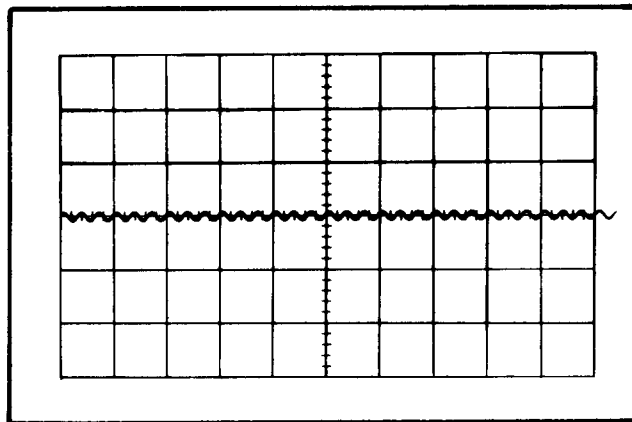

Fig. 6-41. Typical CRT display when checking low-frequency reject operation at 30 kilohertz.
c. CHECK—Stable CRT display (see Fig. 6-41) can be obtained with the A LEVEL control.
i. CHECK—Stable CRT display (see Fig. 6-41) can be obtained with the B LEVEL control.